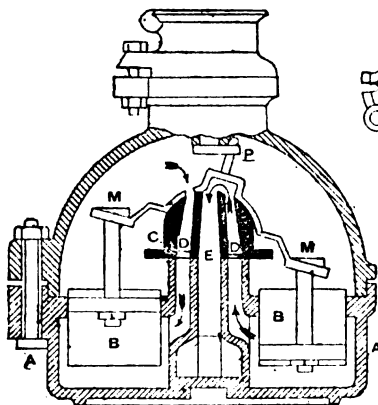

FIG. 2
**Electric Engraving Machine.**—The electric engraving machine illustrated by Fig. 1, and whose parts are shown by Figs. 2 to 6, consists of a light iron frame,  $3\frac{1}{4}$  in. in length by 3 in. in height, on which are mounted the two bobbins B (Fig. 1) of an electro-magnet, which actuates a brass arm K D by attracting the armature A, and this in turn moves the vertical shaft E of the steel engraving needle protruding from the tip of the tube F. The frame is of bar iron,  $\frac{1}{2}$  in. wide and  $\frac{1}{4}$  in. thick. To make it, at one end of a 9-in. piece drill a  $\frac{1}{4}$ -in. hole A (Fig. 2) to take the guide-tube F (Fig. 1);  $\frac{1}{2}$  in. from this drill a  $\frac{3}{4}$ -in. hole to receive the shank of a round-headed screw to hold the magnet core; another similar hole B (Fig. 2) must be drilled  $1\frac{1}{2}$  in. from this for the screw of the other magnet core. The small hole C may be drilled after the frame is bent. At D cut a slot,  $\frac{1}{4}$  in. long and  $\frac{1}{2}$  in. wide, for the brass arm to work in, and there must be a small transverse hole E for the pivot pin of this arm; F and H are two  $\frac{1}{4}$ -in. holes bushed with ivory, ebonite, or vulcanised fibre